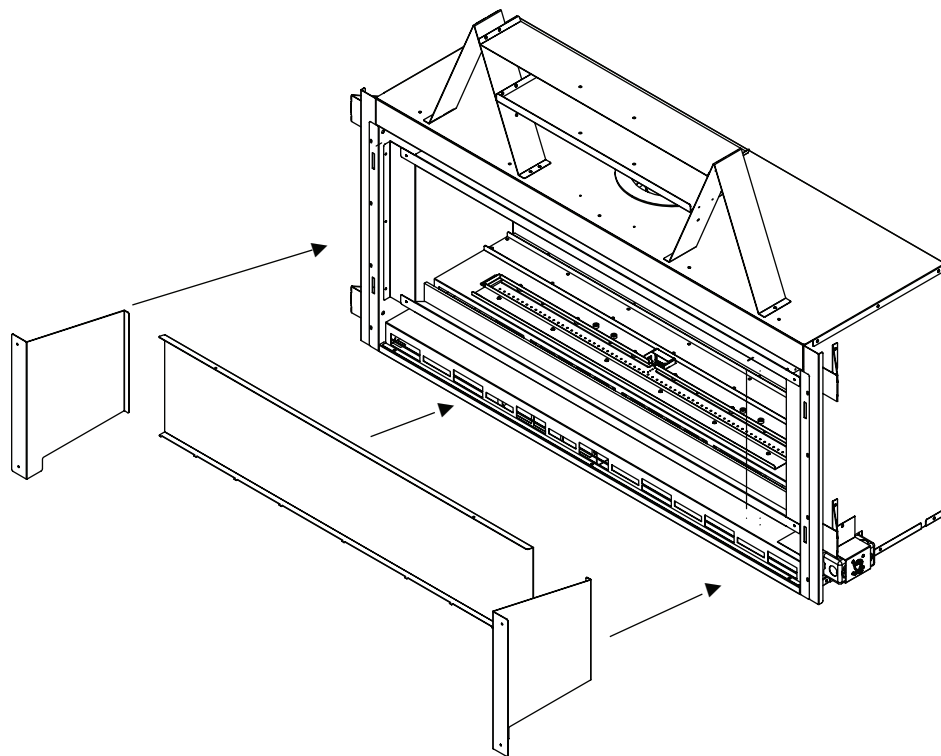

Figure 56
5. Locate the two holes in each side porcelain piece. These will line up with two holes in the front face of the firebox. Place a screw through each hole and fasten. **See Figure 56.**